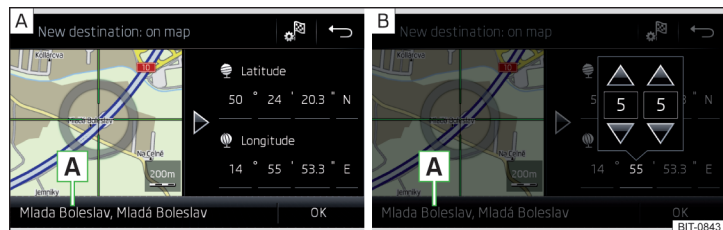

Fig. 214 Enter destination: via the map point / using the GPS coordinates
- Touch the screen to move the desired destination into the cross-hair » Fig. 214 - .
- Tap in the values of the GPS coordinates one at a time and adjust » Fig. 214 - .
If information about the point entered is available in the Infotainment system's navigation data, this will be displayed instead of the GPS coordinates (e.g. address  » Fig. 214).